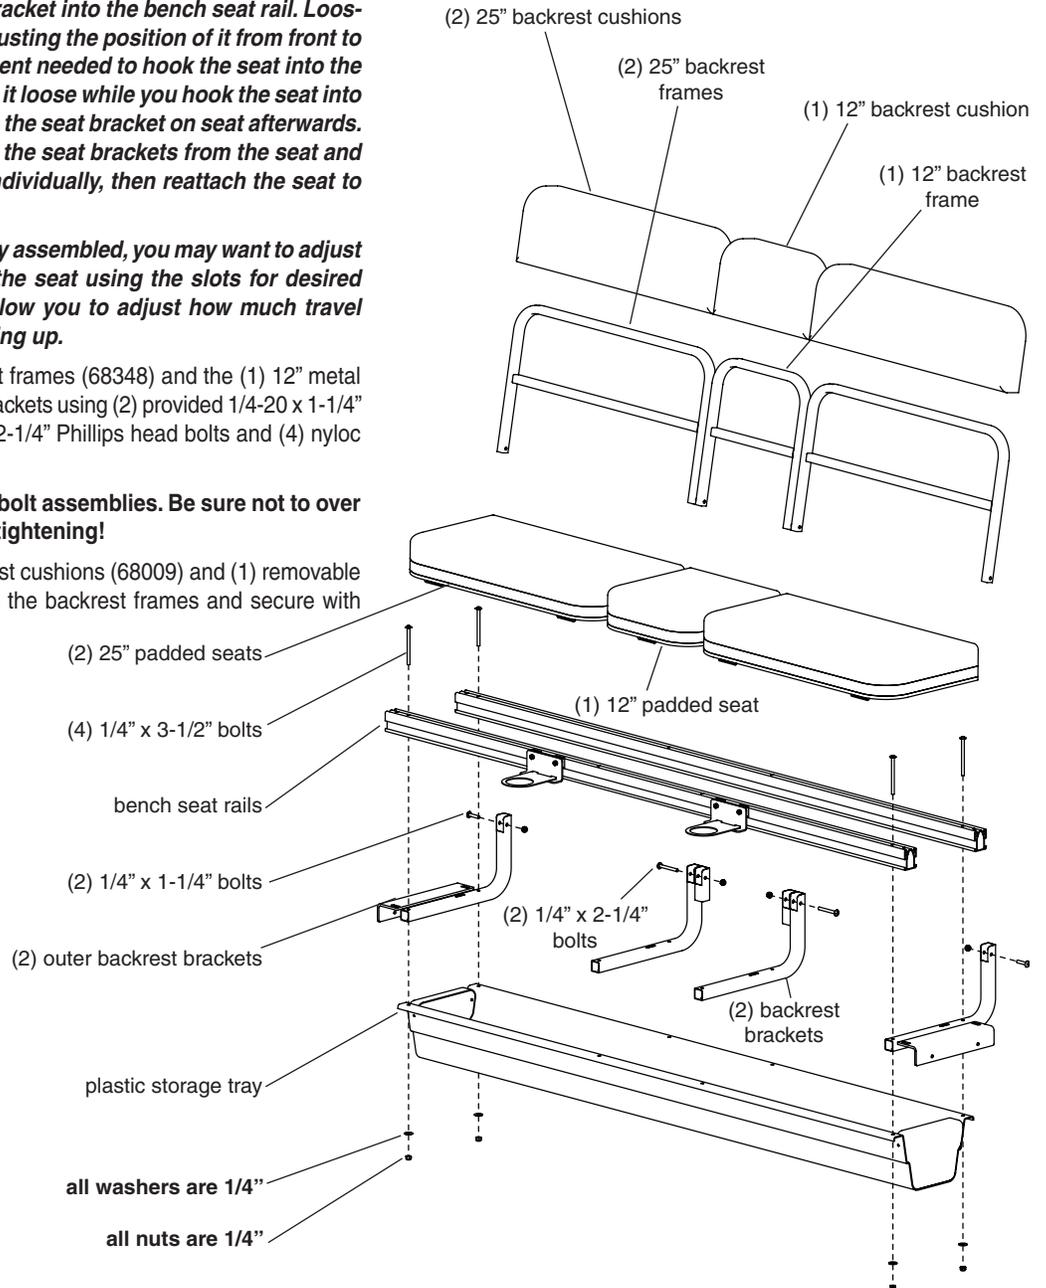

FIGURE 4
10. Attach the (2) outer seat bottom frames (68322) and the plastic storage tray to the bench seat rails using (4) provided 1/4-20 x 3-1/2" Phillips head bolts, nyloc nuts and washers. **SEE FIGURE 4.**
12. Attach the (2) 25" metal backrest frames (68348) and the (1) 12" metal backrest frame to the backrest brackets using (2) provided 1/4-20 x 1-1/4" Phillips head bolts, (2) 1/4-20 x 2-1/4" Phillips head bolts and (4) nyloc nuts. **SEE FIGURE 4.**
14. Attach (2) removable 25" backrest cushions (68009) and (1) removable 12" backrest cushion (68008) to the backrest frames and secure with Velcro.